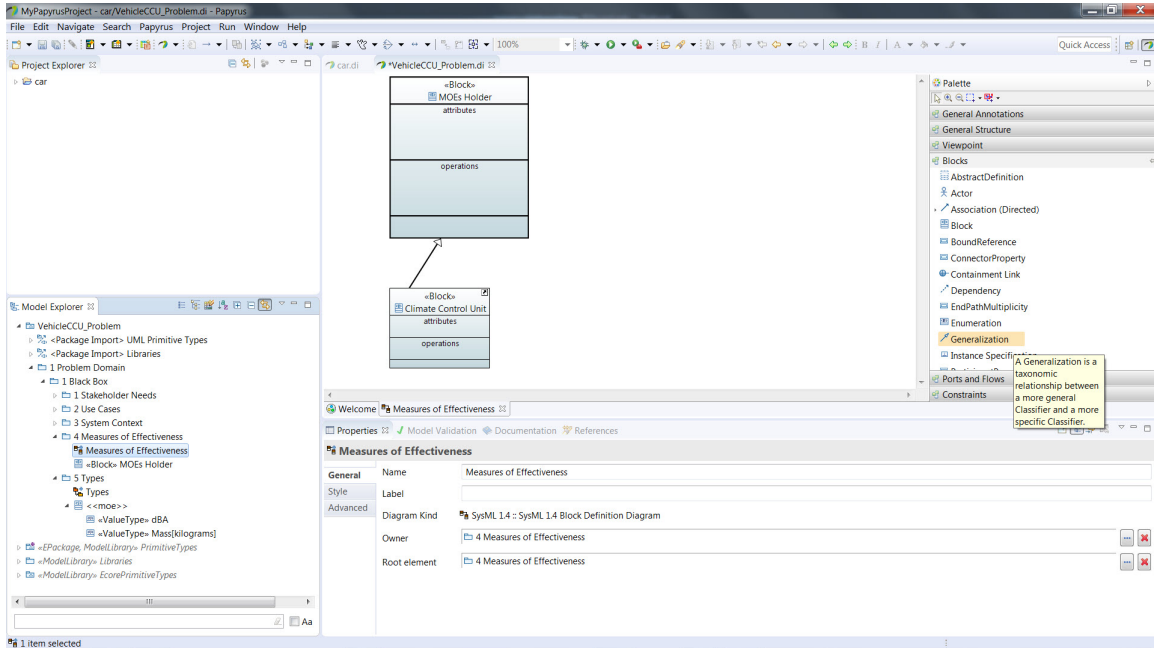

Figure 82: Creating Generalization in the bdd.
9. Using the **Blocks** tool palette on the right, select **Generalization** and then in the block definition diagram Click on the *Climate Control Unit* block and then Click on the *MOEs Holder* block. The generalization arrow will appear on the diagram (figure 82).